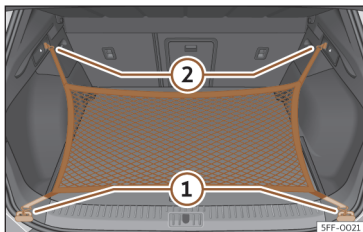

Fig. 191 In the luggage compartment: rings ① and hooks ② for attaching the net bag.
- Secure the short net hooks to the fastening rings >>> Fig. 191 ① >>> ⚠. The bag zip should be facing upwards.
- Secure the straps in the bag hooks ②.